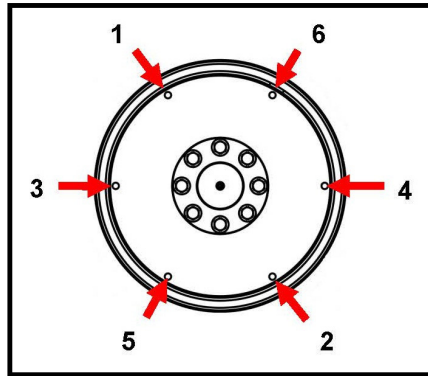

FIGURE 15. FIXING SEQUENCE
10. Tighten the bolts to fix the coupling disc to the flywheel in the sequence shown in Figure 15 on page 25.